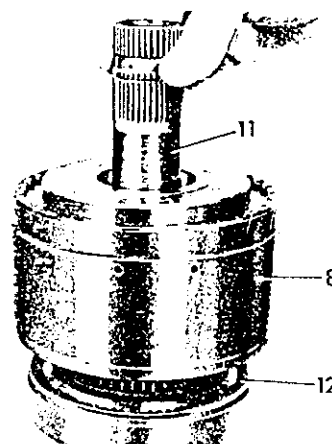

Fig. 7
9 Remove hollow shaft (11) with clutch K 2 (8) from intermediate shaft (12) (Fig. 7).
- 21** Insert piston into supporting flange (8) (Job No. 27.2-690, Fig. 7).